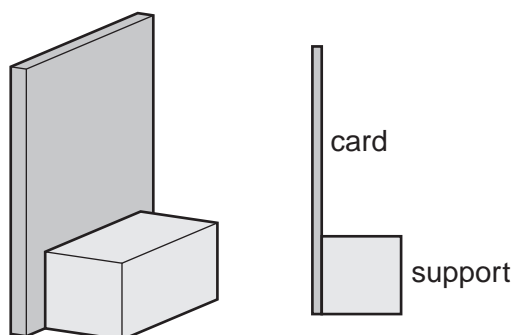

Fig. 4.2
- (iv) Screen. A sheet of stiff white card approximately A4 size, fixed to a wooden support, is suitable, as shown in Fig. 4.2.